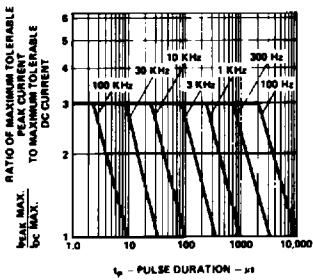

Figure 5. Maximum Tolerable Peak Current vs. Pulse Duration. (I_{DC} MAX as per MAX Ratings).
- See Figure 5 (Red/Orange), 10 (Yellow), or 15 (Green) to establish pulsed operating conditions.